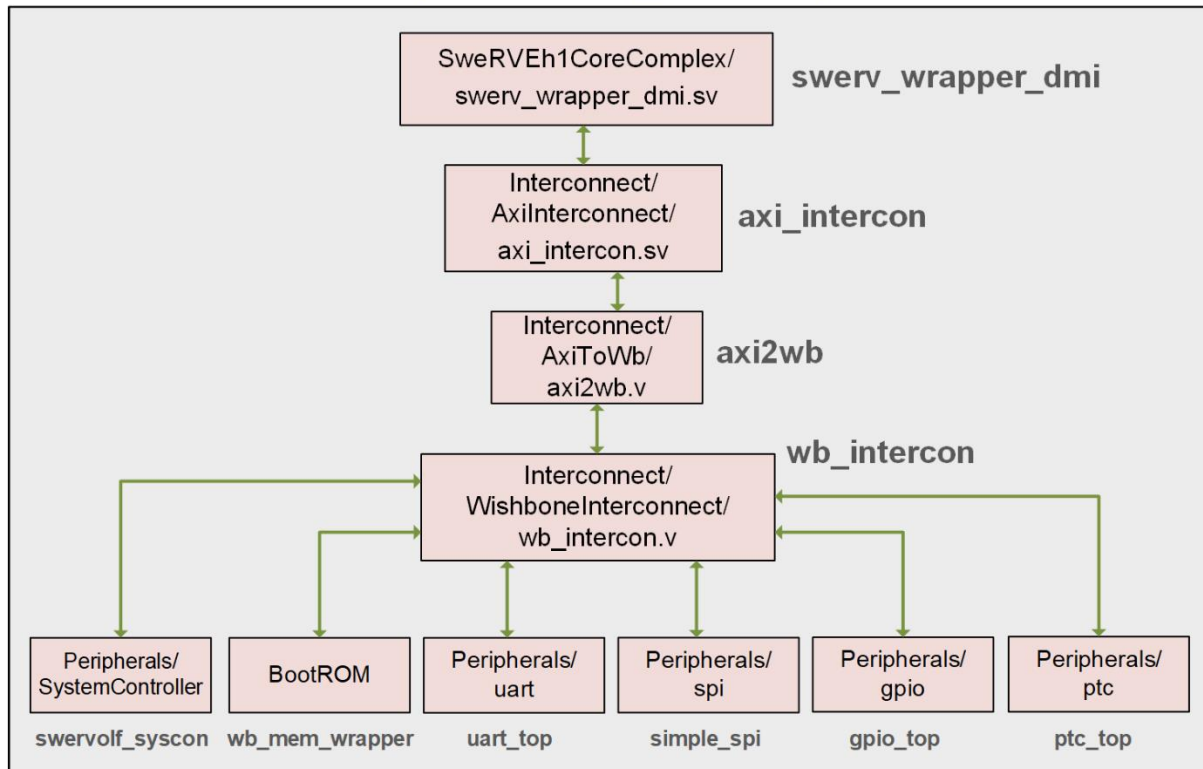

Figure 28. SweRVolfX SoC
Figure 28 shows the file structure for the **SweRVofX SoC** shown in Figure 21. The SoC is organized as the modules that correspond to the blocks shown in Figure 21.
- **swervolf_core**: instantiation of the **SweRVolfX SoC** described in the previous subsection (Figure 28). This also requires a constraints file called *rvfpganexys.xdc* (available at *[RVfpgaPath]/RVfpga/src/*), which defines the connections between the SoC and the board.